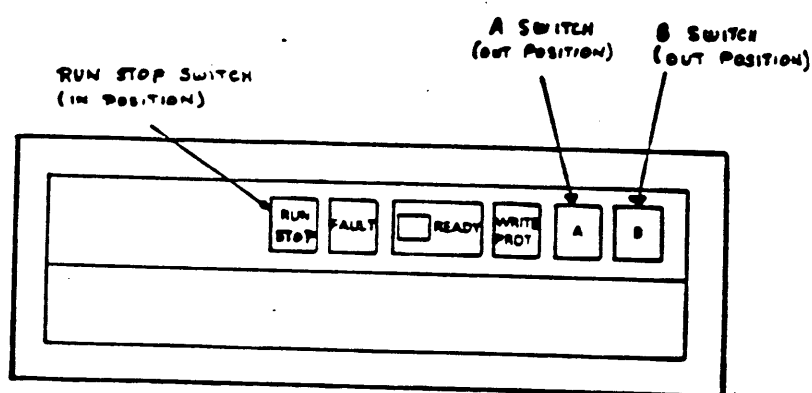

Figure 2-37. Set the switches on the RA60 and RA81 control panels.
Step 28: Set the Run/Stop, A, and B switches on the RA60 and RA81 disk drive control panels as shown in Figure 2-37.